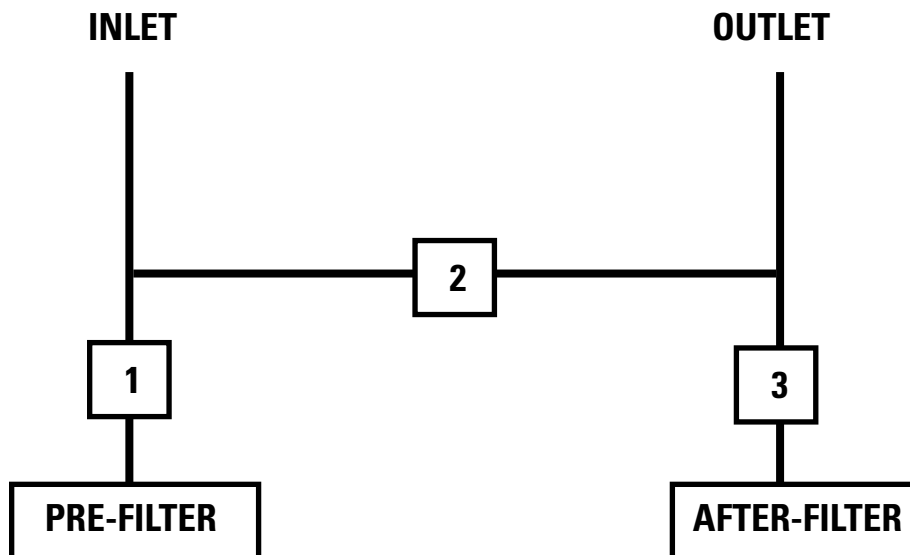

Figure 1.0 - Typical EHA F2-3V Three-Valve Bypass
1. All models can be fitted with optional three valve bypass piping installed at the factory. Three-valve bypass piping is installed for ease in performing routine maintenance such as changing filter elements. If you do not order three valve piping on your unit, it is recommended that you install a three-valve bypass, similar to the one depicted in Figure 1.0 when installing the dryer.